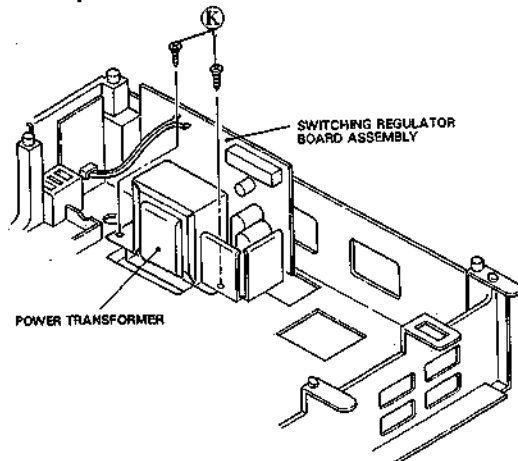

Fig. 1-1-10
2. Refer to Fig. 1-1-10, take out 2 screws (K).